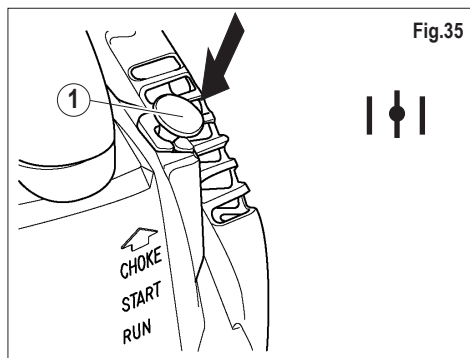

Fig.35
- 8) Fully press down the air knob (choke) (fig. 35), so that the "THROTTLE ADVANCE" - START remains engaged.